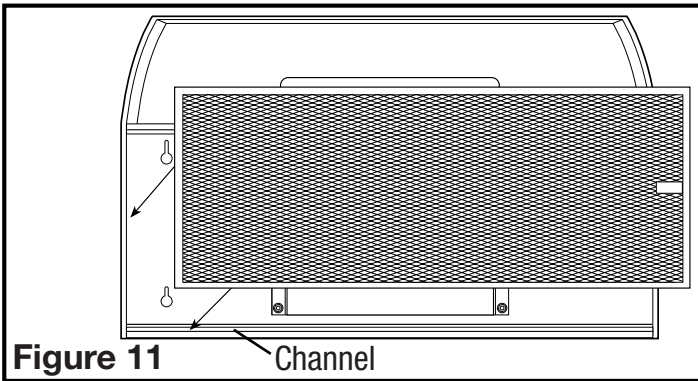

Figure 11
1. Reinstall the filter by fitting into the channel of the hood and pushing upwards until it is secured in place (**Figure 11**).